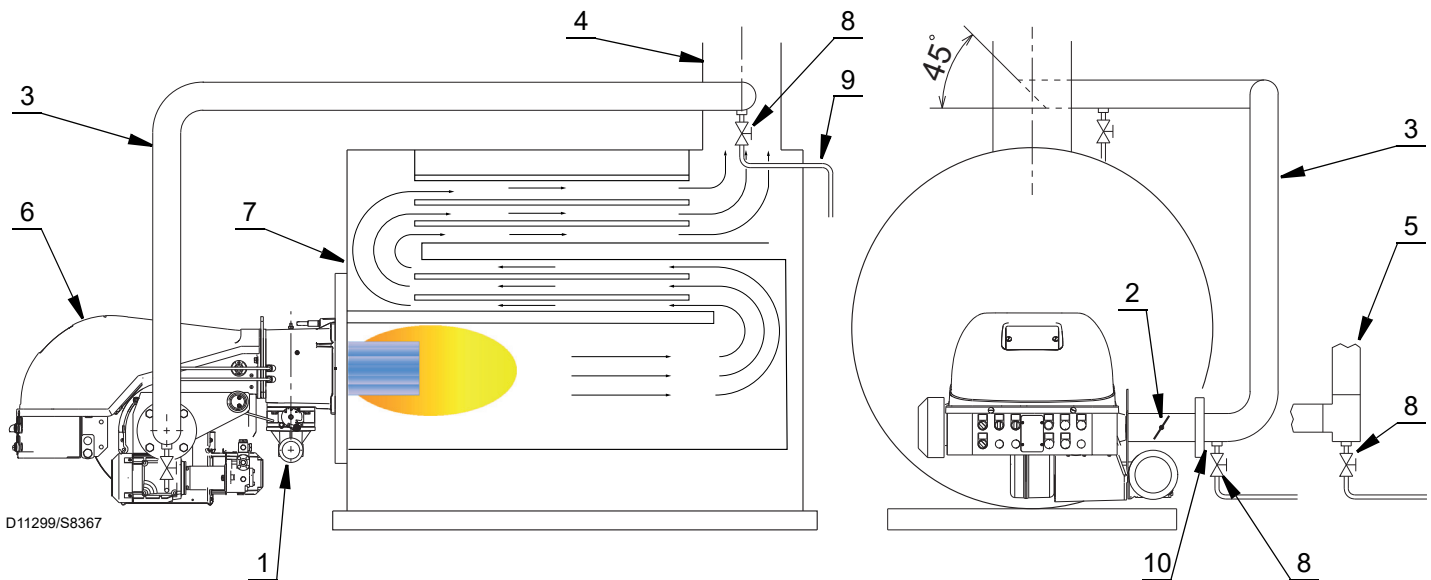

Fig. 23
- Normally the duct would connect to the stack as shown in Fig. 23, with a 45° cut facing the flue gas flow and with the center of the cut centered in the stack.
Key (Fig. 23)